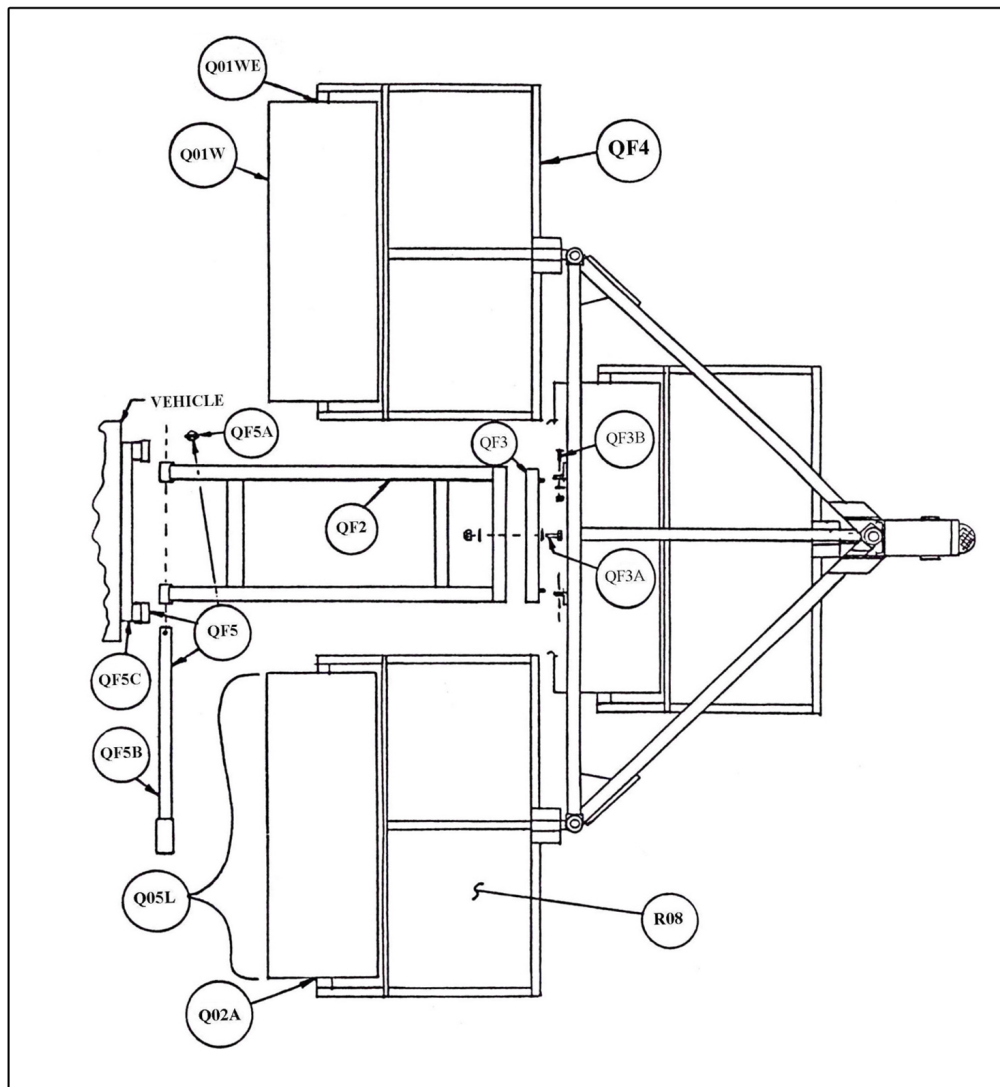

Figure 4: Swivel channel attachment and H-frame attachment, Top View
- Use two (2) 1/2" bolts, washer and locking nuts
2. Slide the bolt through one hole at the back of the frame and the corresponding hole in the swivel channel (see Figure 4)